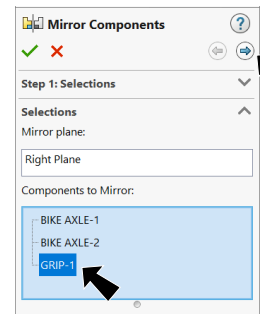

Fig. 36
Step 6. Check **Lock Rotation** and **Add/Finish Mate**  in Mate pop-up toolbar to add a **Concentric** mate, Fig. 36.
Step 1: Selections, **Fig. 36**